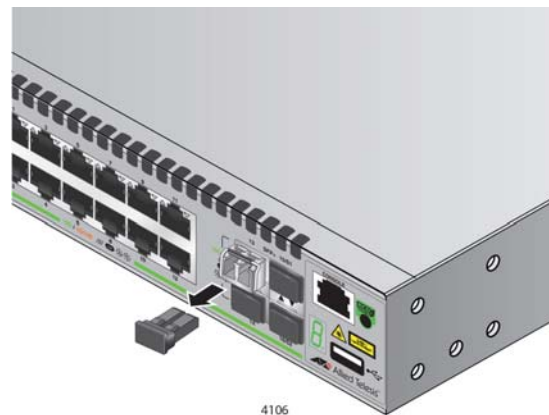

Figure 41. Removing the Dust Cover from an SFP Transceiver
5. Remove the dust cover from the transceiver, as shown in Figure 41.
1. If the port has a dust cover, remove the cover. Refer to Figure 41 on page 70.